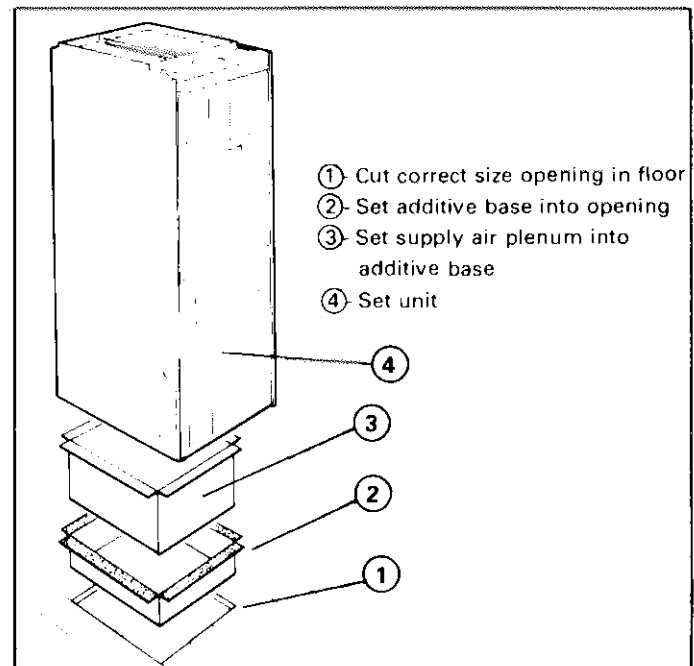

FIGURE 1
- 5 - Set unit on additive base so unit flanges drop into plenum. Refer to Figure 1.